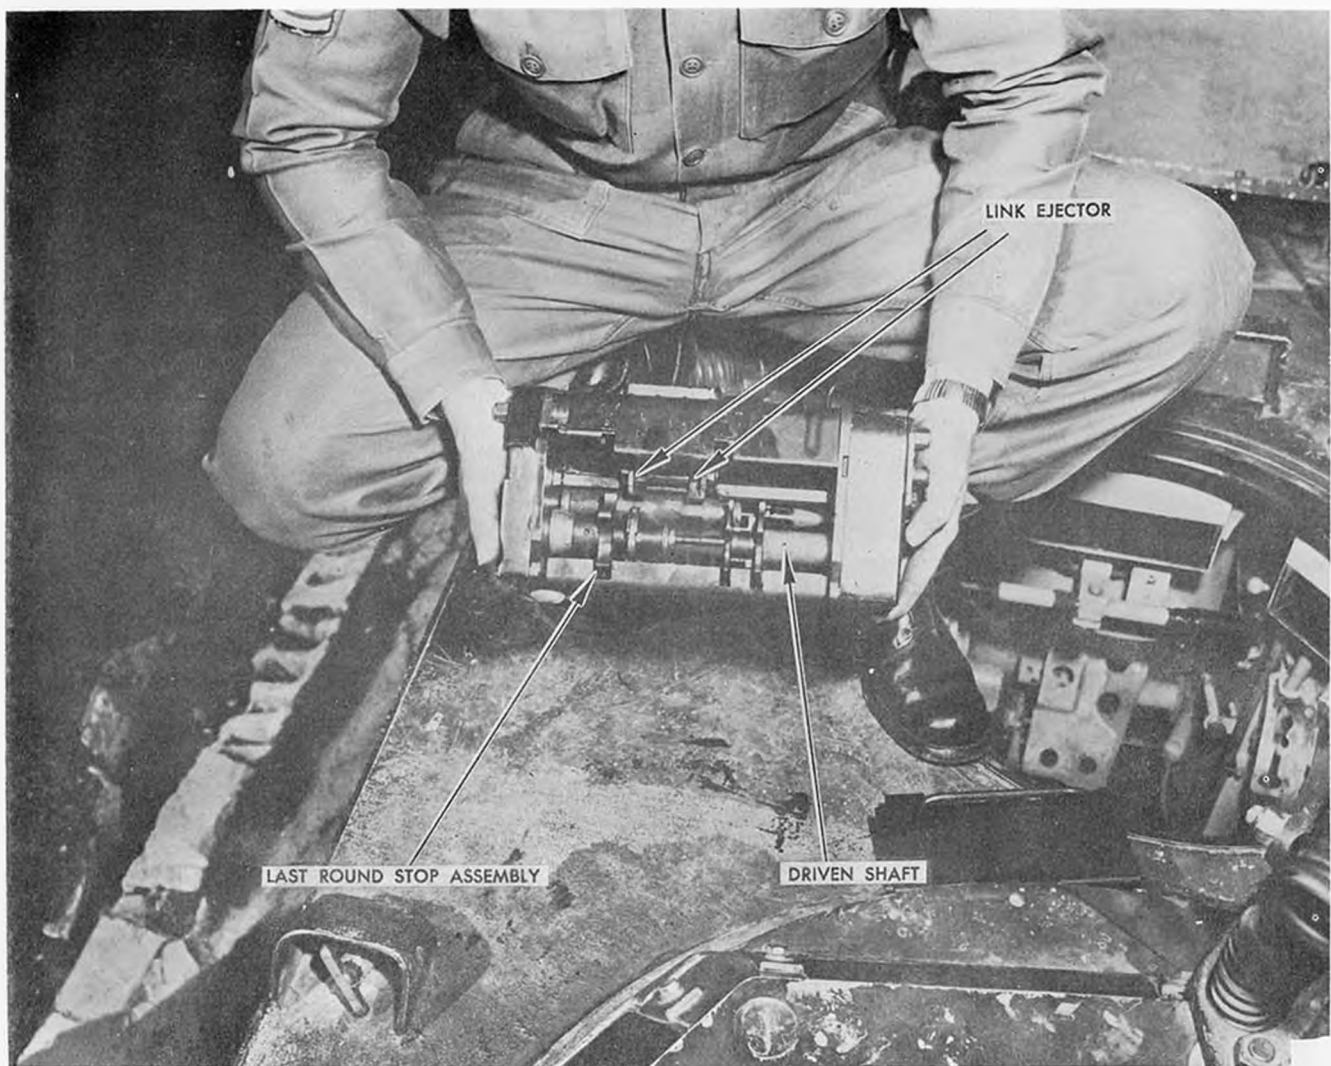

Figure 19. Automatic gun feeder.
(1) If belt is fully expended, bolt will be closed and one round will be held in feeder by last round stop assembly. When depressed, the last round stop control lever will cause round to drop into the lips, and it can then be removed from feeder (fig 19).
(2) If belt is *not* fully expended, bolt will be to the rear, and two rounds will remain in feeder. After feeder is removed, the first round must be pushed from feeder lips. When depressed, the last round stop control lever will cause the last round to drop into lips, from which it can be removed.